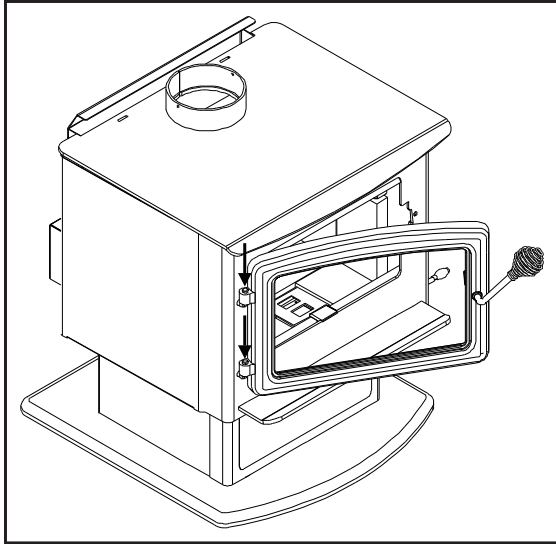

Figure 45: Installation Door onto Unit.
2. Place the door assembly on the two (2) hinge pins mounted on the body of the unit. Refer to Figure 45.